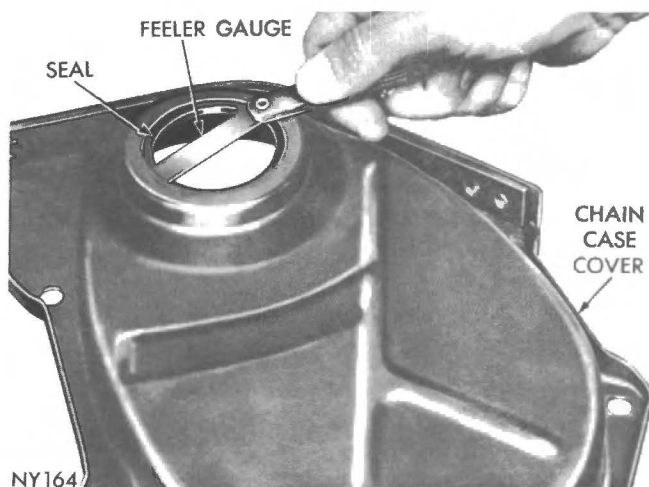

Fig. 25 - Checking seal for correct seating.
(5) The seal is properly installed when neoprene is tight against the face of cover. Try to insert a .0015" feeler gauge between neoprene and cover, (Fig. 25) if the seal is properly installed, the feeler gauge cannot be inserted.